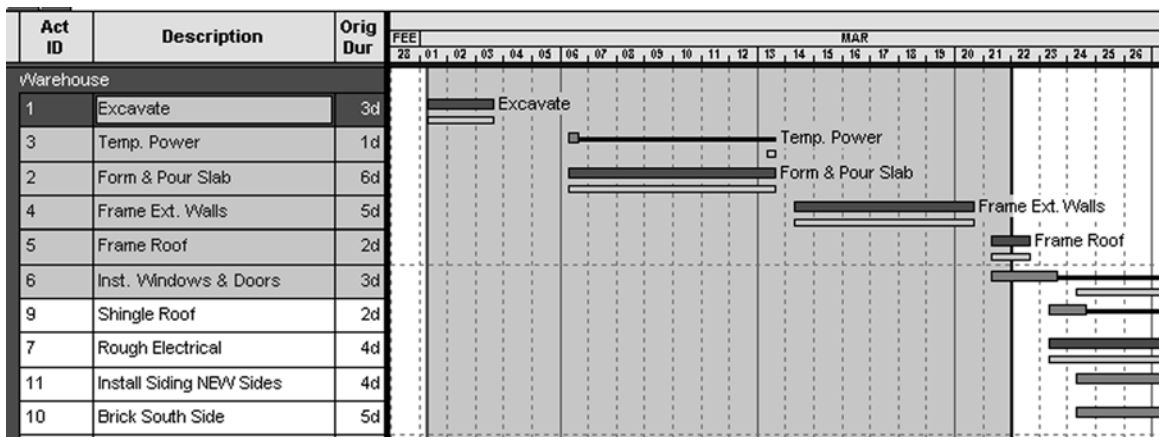

FIGURE 21.12 Setting the data date
- E. *Set the Data Date.* The data date represents today’s date. If the project has not been updated, the data date is the project start date. In SureTrak, the data date is always in the morning. To update a project through Friday night, make the data date Saturday morning. For this exercise, set the data date to be about three weeks beyond the project start date. (Do not update activities beyond three weeks because you will update them later by the use of e-mail.) The easiest way to set the data date is to move the mouse pointer over the data date line (red vertical line on the bar chart) until it turns to a double arrow with **DD** on it. Click and drag the data date through the time period you want to update and those activities will be highlighted or spotlighted. The position where the new black line remains is the new data date. The computer screen should look similar to Figure 21.12.